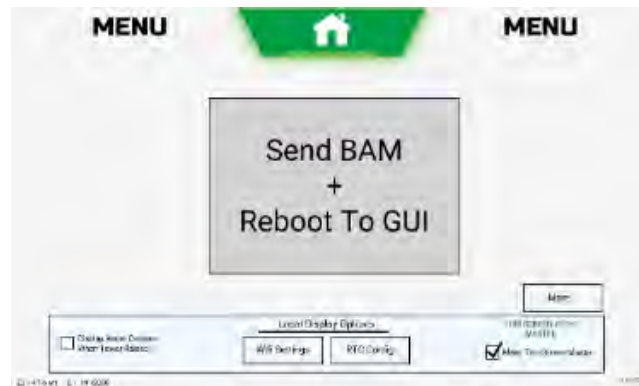

Figure 105. Configuration Mode MENU Screen
- C. When Home MENU is displayed (Figure 105), if **THIS SCREEN IS THE MASTER** is displayed (in lower right-hand corner of the screen), touch ☐ Make This Screen Master checkbox. The screen should now read **THIS SCREEN IS A SLAVE**.